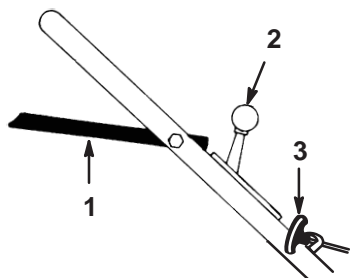

Figure 7
The control bar, the throttle control, and the starter handle are on the upper handle as shown in Figure 7.
3. Move the throttle control to the **Choke** position (Fig. 7).
4. Hold the control bar to the handle (Fig. 7).
5. Pull the starter handle (Fig. 7) lightly until you feel resistance, then pull it sharply. Allow the rope to return to the handle slowly.